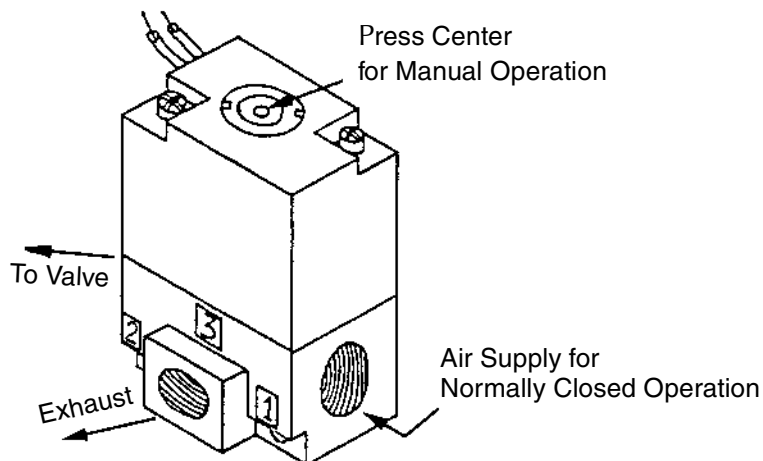

Figure 1-3 Solenoid Operation
- ❑ *Removed*, the valve closes (Figure 1-3).